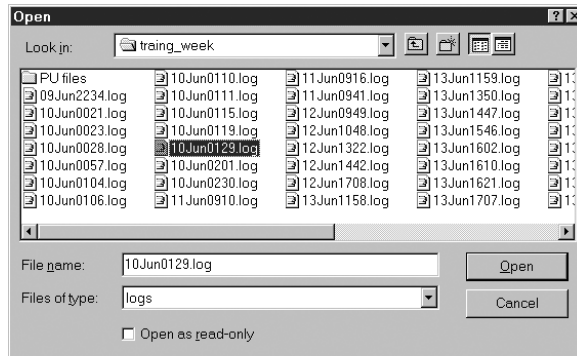

FIGURE 26. Log File Selection
2. The log file is saved under a file name containing the date and time. See Figure 26.
5. To select a log file, click the Open File button, then select a log file (see Figure 26).